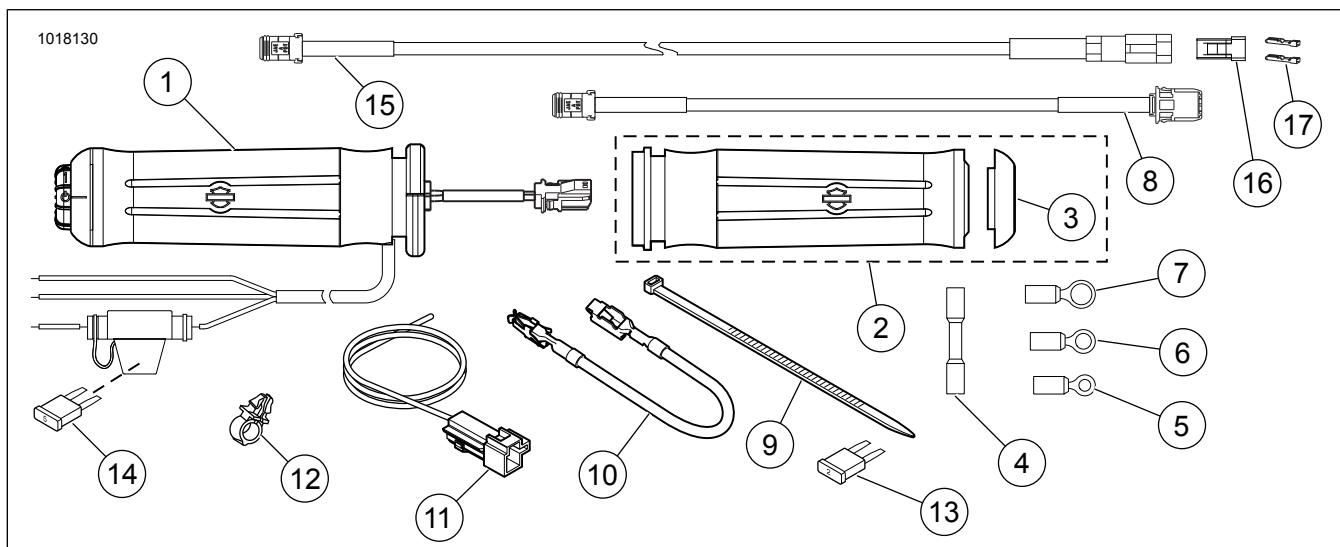

Figura 8. Parts tas-Service, Kits Tal-Manku Li Jissat-ħan
- Ara Figura 8 . Uża čineg tal-kejbil (9) mill-kit biex torbot il-wiring tal-manku mal-harnesses tal-wajers matul il-frejm tal-vettura.